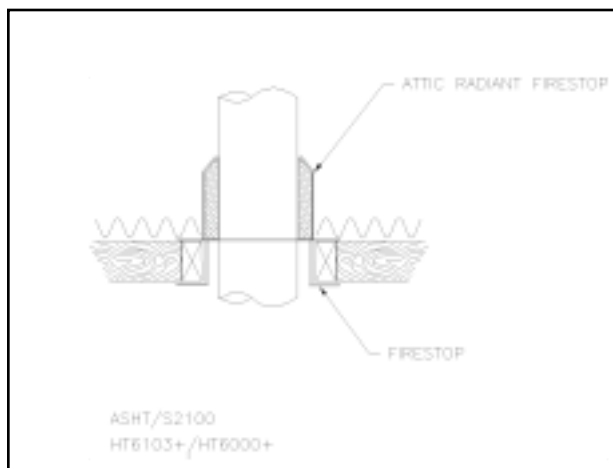
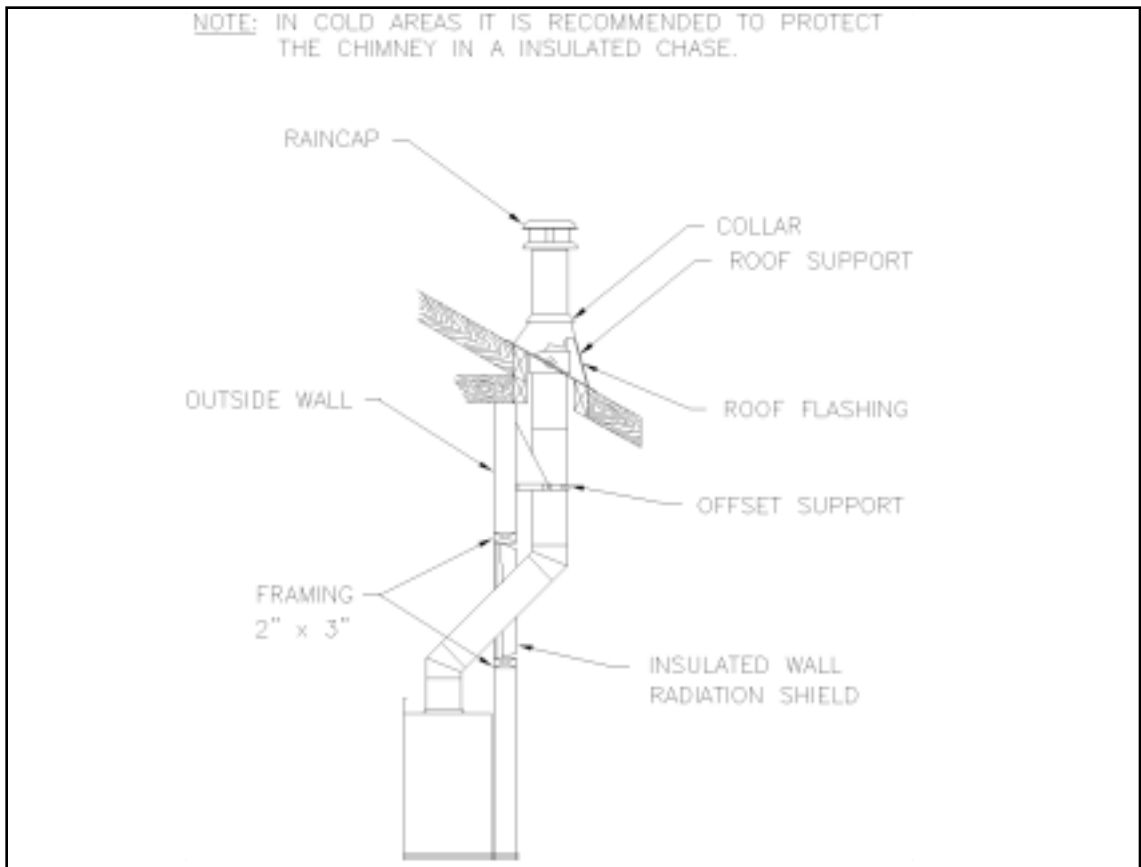

Figure 28
Figure 34
- From below, install a firestop in each ceiling/floor separation through which the chimney will pass. At the attic level, install an attic radiation shield from above. (figures 28 & 29).
1. Install the first elbow; turn it in the required direction. Fasten it to the chimney with the three (3) \_" (12 mm) metal screws provided with the elbow.
2. Install the necessary chimney lengths to achieve the required offset. Lock the chimney lengths together: it is recommended to use three (3) \_" (12 mm) screws. If the offset length is made of two (2) chimney lengths or more, use an offset support halfway up the offset. If penetrating a wall, install a wall radiation shield (see figures 34 & 35).
3. Use another elbow to turn the chimney vertically. Secure the elbow, using three (3) \_" (12 mm) screws (provided with the elbow).
5. From below, install a firestop (See figure 28).